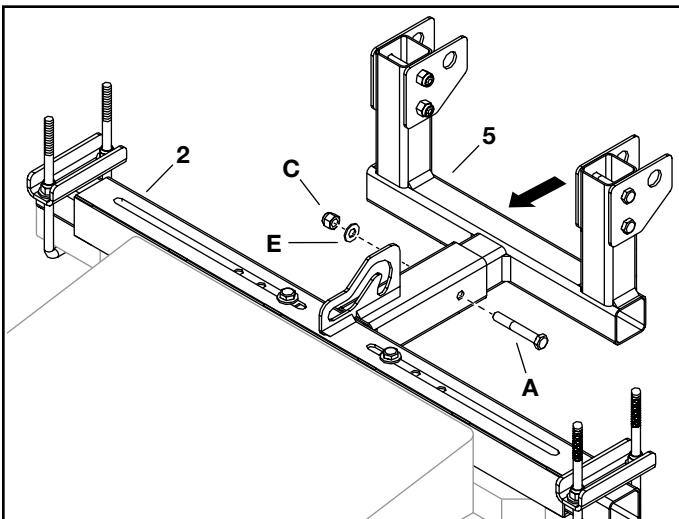

FIGURE 4
STEP 4: (SEE FIGURE 4)
- Insert the blade mount assembly (5) into the hitch mount assembly tube (2).
- Secure with a hex bolt (A), washer (E), and Nyloc hex nut (C).